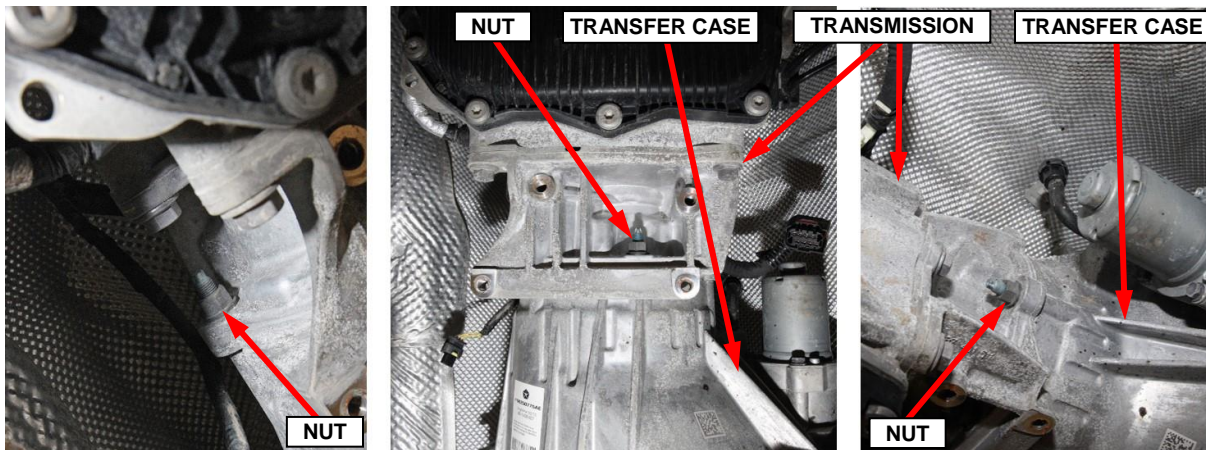

Figure 22 – Transfer Case Fastening – Six Nuts
- 28. Remove and **SAVE** the six nuts securing the transfer case to the transmission (Figure 22).
5. Install the six nuts securing the transfer case to the transmission. Tighten the nuts to 41 N·m (30 ft. lbs.) (Figure 22).